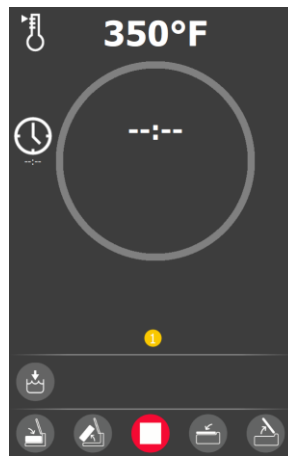

Figure 29
- The Infinity Cooking Stage operates like the Timed Cooking Stage except for the time is infinity and depicted in the progress wheel as --:-- (see **Figure 29**).